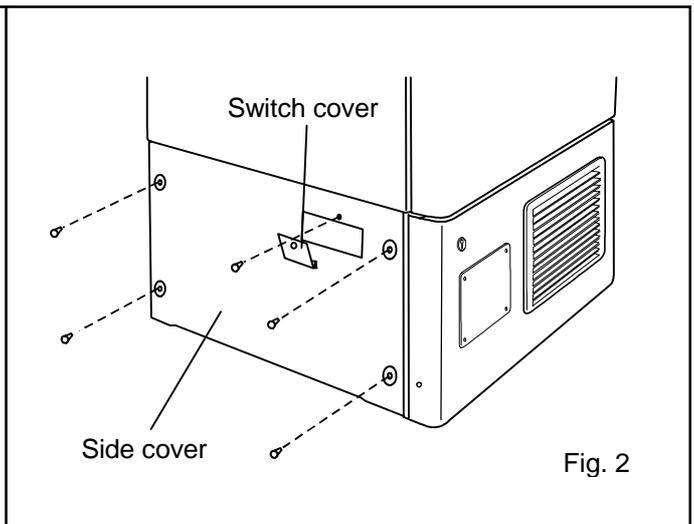

Fig. 2
2. As shown in the Fig. 2, remove 5 screws fixing the side cover and the switch cover with a screw driver and remove the side cover.
3. Press both sides of the pen arm as indicated by the arrows to open the head clamp at A and B. (See to Fig. 2 illustration 1)
4. Position the pen cartridge so that the guide pins fit into the guide holes on the pen arm. (See to Fig. 2 illustration 2)
5. Press the two sides of the head clamp as indicated by the arrows to secure the pen cartridge. (See to Fig. 2 illustration 3) From the side view, the cartridge should fit perfectly on the arm. Confirm that the pen arm is attached to both sides of the pen cartridge.